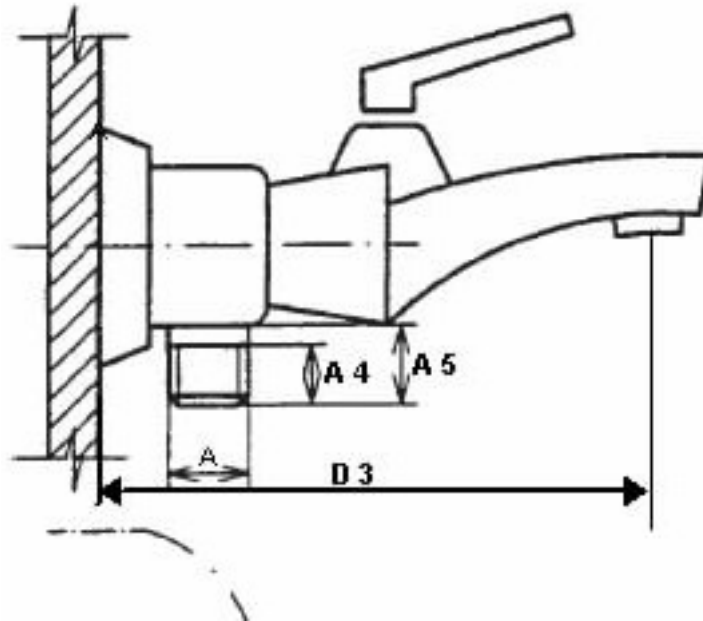
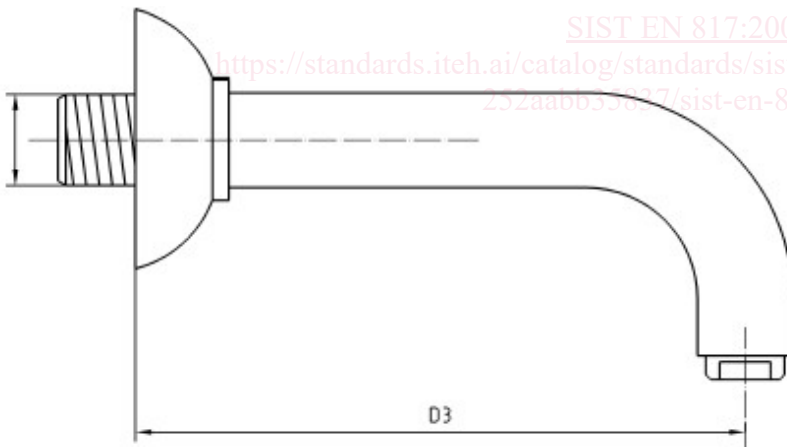
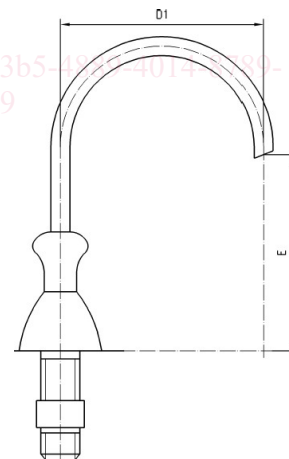

Figure 6 Outlet dimensions – Bath/Shower mixer
Figure 7 Outlet – wall mounted
Figure 8 Outlet – Basin, Bidet, Kitchen
- Outlet dimensions (length, flow rate regulators, attachments) are shown in Table 4, Figure 6, Figure 7 and Figure 8.